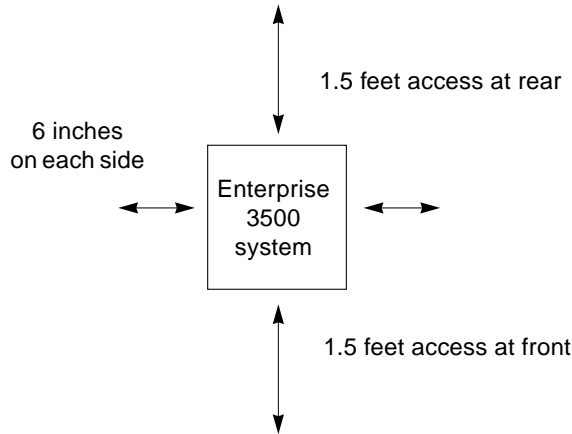

FIGURE 1-4 Enterprise 3500 Server Access Areas — Top View
- The server unit requires approximately 1.5 feet (47 cm) of space in the front and rear for access by service personnel (FIGURE 1-4).